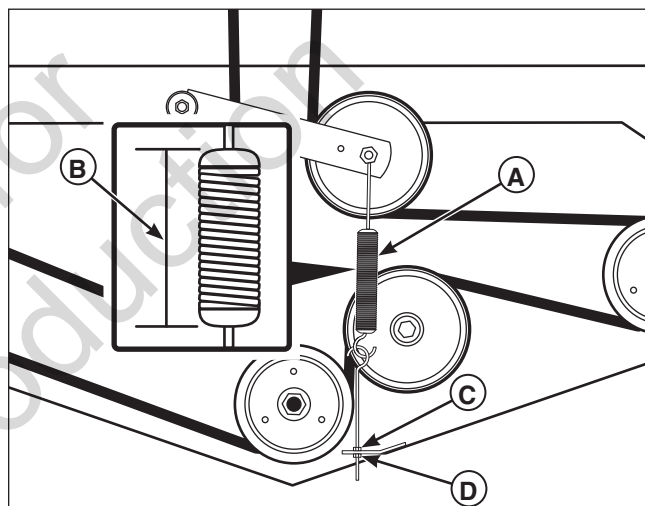

Figure 29. Check / Adjust the Mower Belt Idler Tensioner Spring Length
- Measure the coil length of the mower belt tensioner spring (A, Figure 29). The measurement should equal the measurement as indicated in the chart. If it does not, adjustment is necessary, continue with step # 3.
- Loosen the jam nut (C).
- Turn the adjustment nut (D) until the measurement as indicated in the chart is achieved.